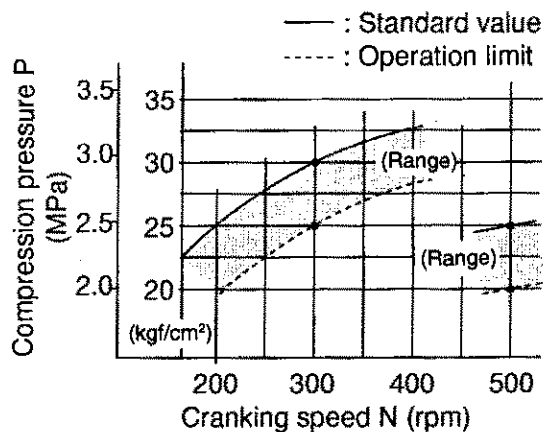

Fig.6.4.6 Compression pressure
- ① Start the engine and maintain at idling. Remove fuel injection pipe 1 and fuel injection valve 2.
- ② Set the governor lever 3 to the STOP position and carry out cranking 5 or 6 times.
- ③ Fix adapter 5 of compression gage 4 to the fuel injection valve joint, together with gasket 6.
- ④ After cranking, wait until the pressure stabilizes and read the compression pressure P. If the measured pressure exceeds the operation limit (range) shown in Fig. 6.4.6, repair or replace the parts including related parts.